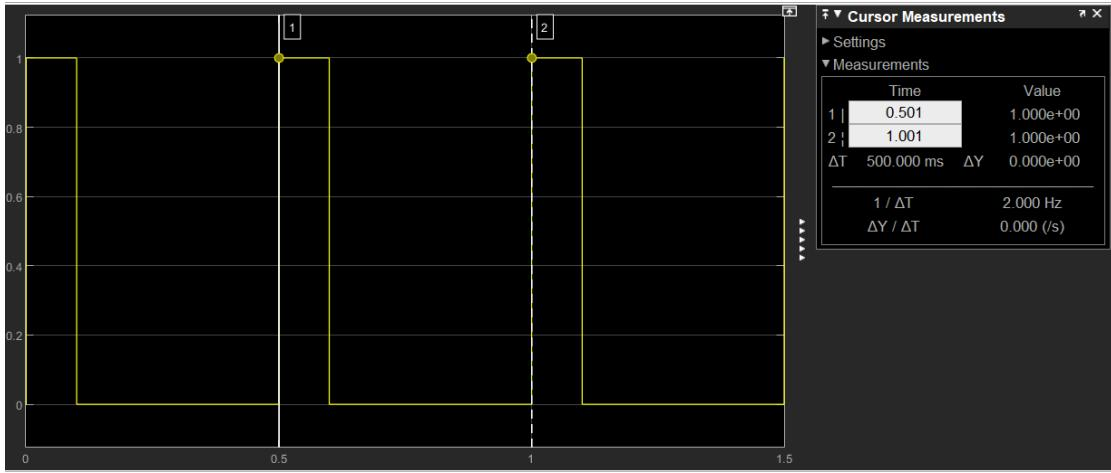
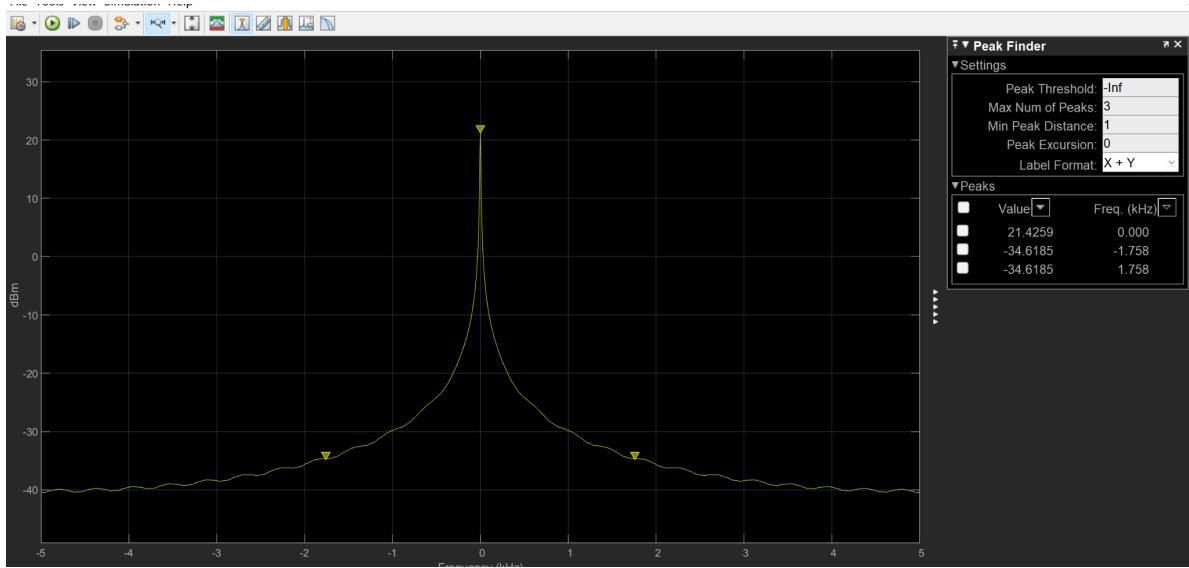

Fig. 7: Output of the square-wave (20% duty cycle) on the Scope
Fig. 8: Output of the square-wave (20% duty cycle) on the Spectrum
- 4) We then changed the duty cycle of the square wave to 20%, and observed the outputs on the Scope and the Spectrum (Fig. 7 and Fig. 8).